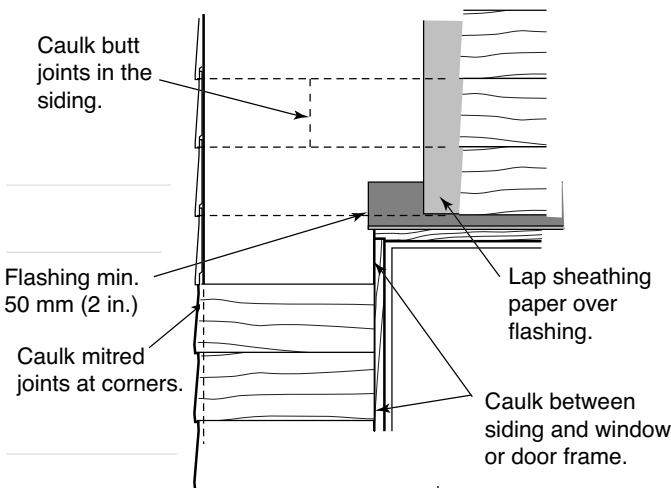

FIGURE 29
- Caulk joints at the corners and at window and door openings, except for those ventilation gaps used as part of the rain-screen wall (see Figure 29).